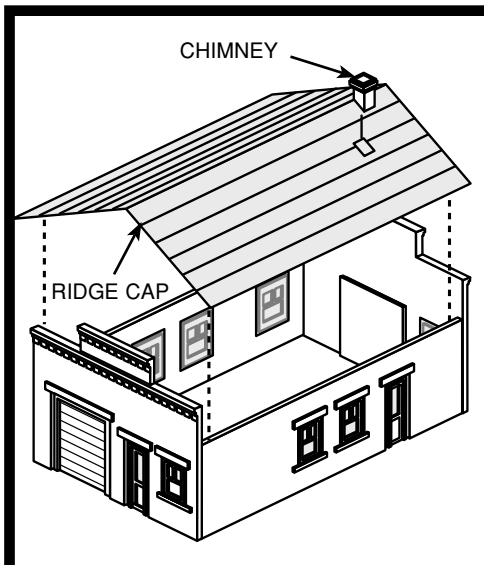

FIG. 2
4. Fit roof sections over walls as shown in Fig. 2. Peak of roof should fit below top of front and back wall facades. Roof stops should fit inside walls. Glue roof and walls together where they meet and roof sections at the peak.
6. A notch will need to be cut in one or two of the roof strips to accommodate the base of the chimney. See Fig. 2 and box photo for placement.